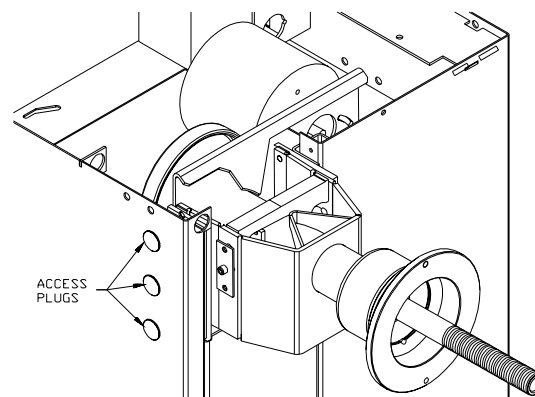

Figure 3-34
- Remove the access plugs from the front of the balancer. (Figure 3-34)